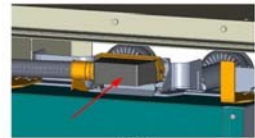

Fig. 2
7. Interlock the withdrawable part (B) inside the panel by turning the locking levers (C) 90° to the inside.
8. To release the service truck (G) from the panel, fold the two unlocking levers (K) on the right and left side of the service truck up, and pull the service truck away from the panel by the handle (J).
9. Plug the low-voltage connector in, and fold the longitudinal fastener of the coupling downwards. (Fig. 2)